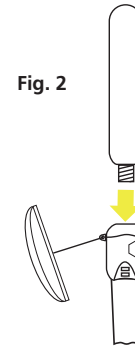

Fig. 2
2. Make sure the manual lever is in the up and ready position. Install the CO2 cylinder into the inflator by screwing it until hand-tight (Fig.2). Check that the automatic capsule has not been fired by ensuring that the bottom indicator is showing green.